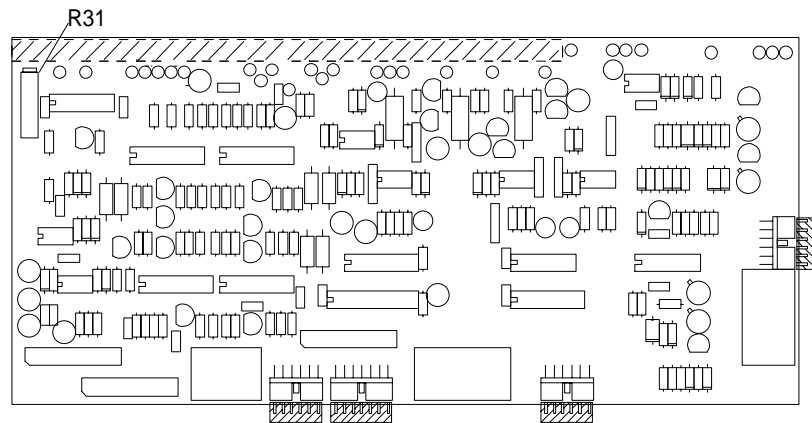

Figure 6-9. A23 Multiband Controller PCB (54154A thru 54177A)
- Adjust A23R31 on the multiband controller (Figure 6-9) to move the oscilloscope trace more negative until the trace oscillates and/or the 541XXA Unleveled LED lights. Now adjust A23R31 back two turns (trace more positive).